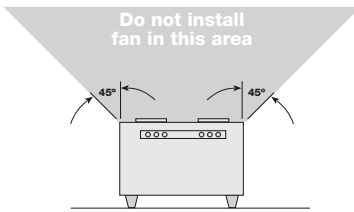

Figure 4
- For best performance, choose a location with the shortest possible duct run and minimum number of elbows. Do not mount near cooking equipment, shown in Figure 4.